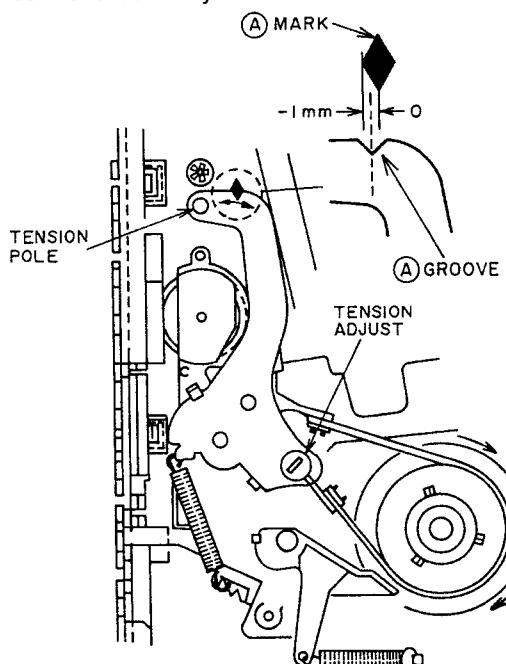

Fig. 4-1
- 3) Confirm the distance between **(A)** groove on the TENSION ARM and the **(A)** mark on the MECHA. CHASSIS so that the distance should be within the value shown in Fig. 4-1